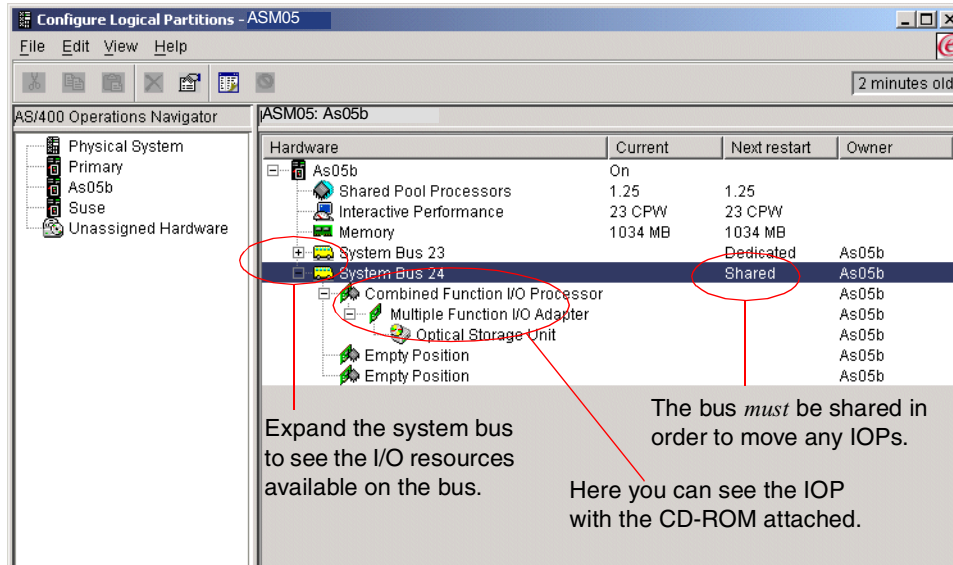

Figure 8-24 Configure Logical Partitions display: IOP move
2. Click the plus sign [+] to expand the system bus containing the IOP to be moved. In our example, we selected system bus 24. See Figure 8-24.